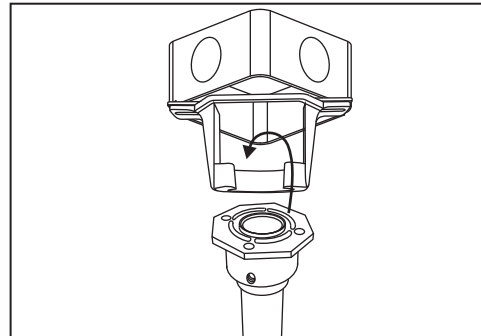

Figure 7
4. Hanging the assembled fan onto the mounting bracket, place the downrod ball into the mounting bracket. (Figure 7)
THE TAB IN THE RING MUST REST IN THE GROOVE OF THE HANGER BALL AS FIGURE 7. FAILURE TO PROPERLY SEAT THE TAB IN THE GROOVE COULD CAUSE DAMAGE TO WIRING.